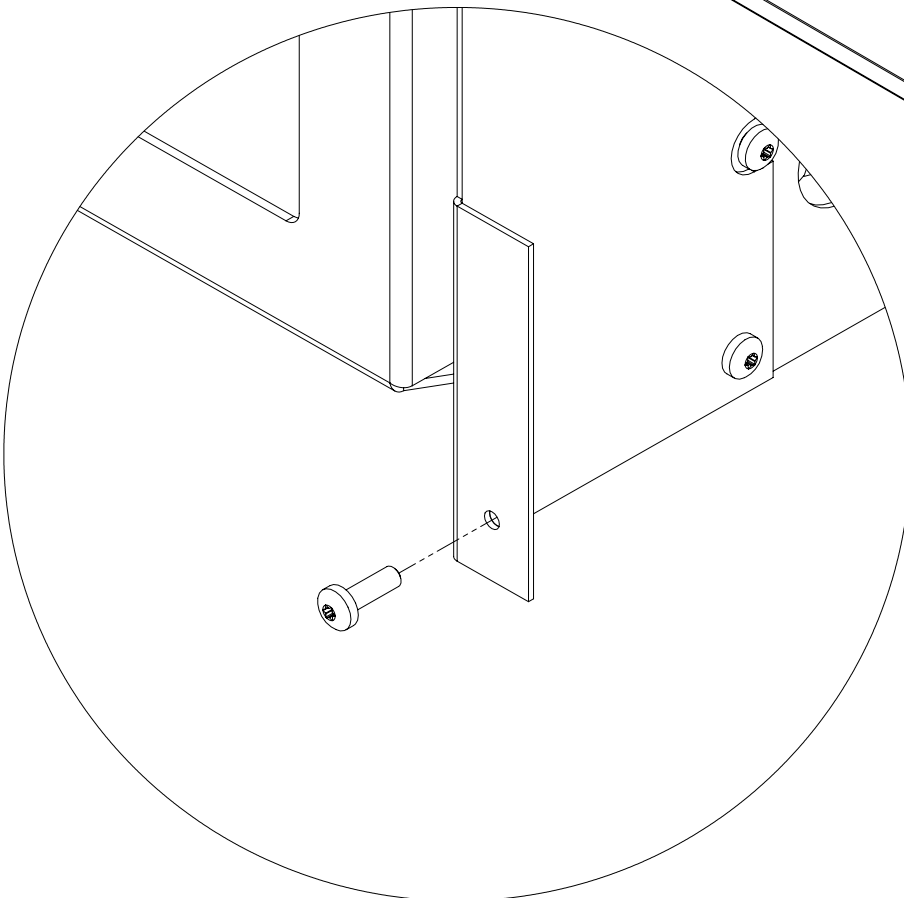

Figure 32: Trimmable Panel Screw Install Close-up.
1. Using a T20 screwdriver, screw one (1) #8-32 x .5" screws approximately 1/4" into the bottom of each Side Extension (see Figure 32).